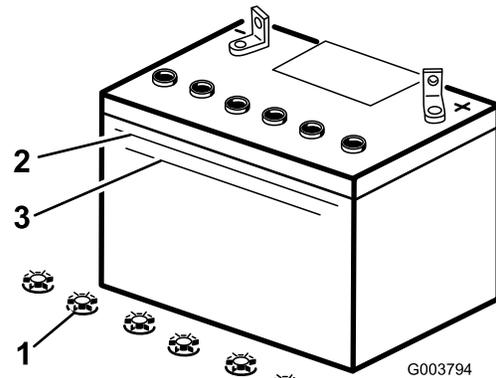

Figure 30
3. Look at the side of the battery. The electrolyte must be up to the Upper line (Figure 30). Do not allow the electrolyte to fall below the Lower line (Figure 30).
3. Remove the filler caps from the battery (Figure 30).
4. Slowly pour distilled water into each battery cell until the electrolyte level is up to the Upper line (Figure 30) on the battery case.
5. Wait five to ten minutes after filling the battery cells. Add distilled water, if necessary, until the electrolyte level is up to the Upper line (Figure 30) on the battery case.